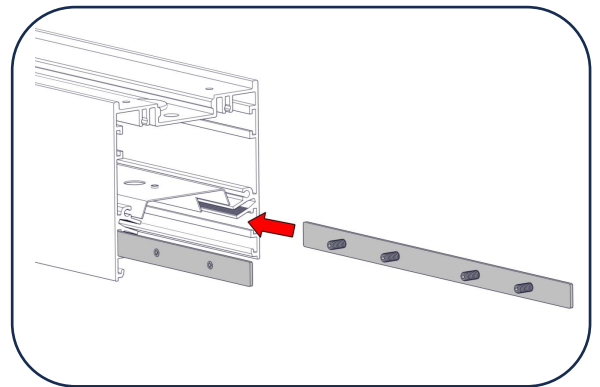

Figure 1
1. Install a Inner Joiners in the fixture to be joined. [Figure 1]